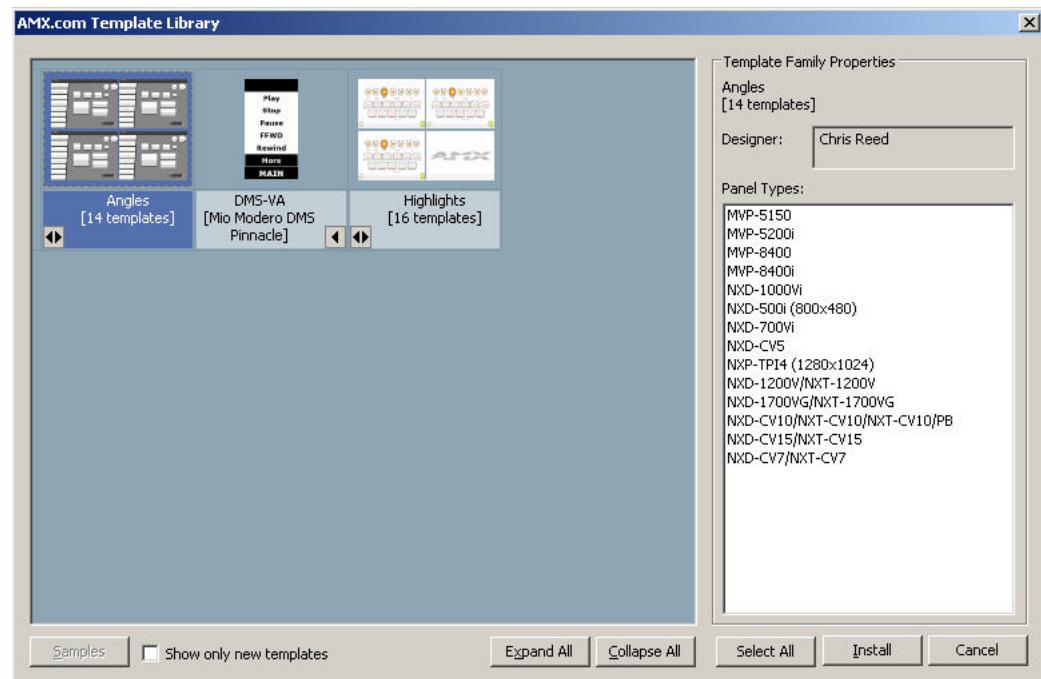

FIG. 180 AMX.com Template Library dialog
- When you make this selection, the *AMX.com Template Library* dialog retrieves the ,VAT file(s) from the AMX web site (FIG. 180).